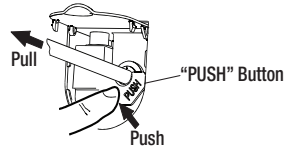

Figure 3
- Pull out the water filters (4). (Figure 3)